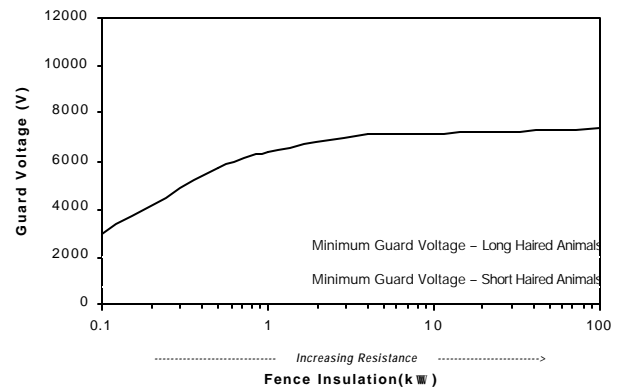

Figure 47. Guard Voltage for 3.3 mile (5.4 km) Fence.
**Shock Delivery:** Figures 47 and 48 show guard voltage outputs of the Stockman Model 6000 for 3.3 and 10 mile (5.4 and 16 km) lengths of single wire fence over a range of resistances. Table 22 provides the guard voltages at the "weeded" and "clean" fence conditions. Guard voltage values for other fence conditions are given in Appendix II. The higher the guard voltage the higher the shock delivered to the animal.
As can be seen from **Figures 47 and 48**, low resistance did not appreciably affect shock delivery since the voltage output was above 2,000 V for all fence conditions. The Stockman Model 6000 can be expected to deliver shock over a wide range of fence conditions.